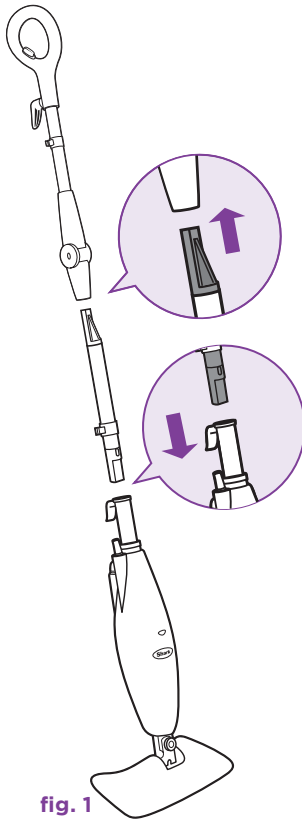

fig. 1
- 1 Fit the extension tubes together as shown in the illustration. (fig. 1)